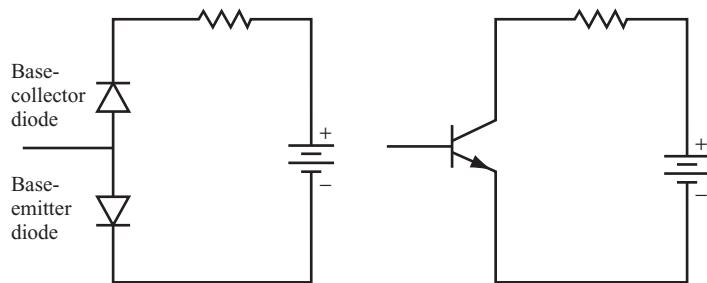

FIGURE 3.11
- 9** Look at the circuit shown in Figure 3.11.